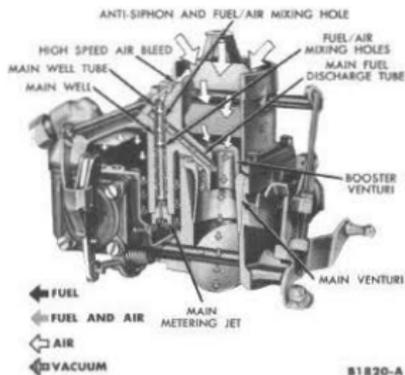

FIG. 30—Main Metering System
**MAIN FUEL METERING SYSTEM.** The main fuel metering system (Fig. 30) supplies the fuel required for engine operation during the cruise or part throttle range. The system begins to function when the air flow through the carburetor venturi creates a sufficient vacuum to start